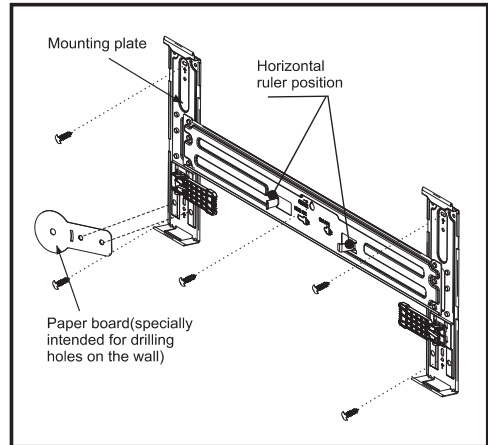

Fig. 1
- 6) Align the 2 holes of the paper board with the 2 holes of the mounting plate as show in Fig. 1.
- 1) Decide the position of hole for piping according to the location of mounting plate(see the position and size of the paper board as shown in Fig. 1).
**Note:** If you have a hole on the wall, you need to align the round part of the paper board with the hole on the wall. Then align the 2 holes of the mounting plate with the 2 holes of the paper board (shown in fig. 1) to decide the installing location for the mounting plate.